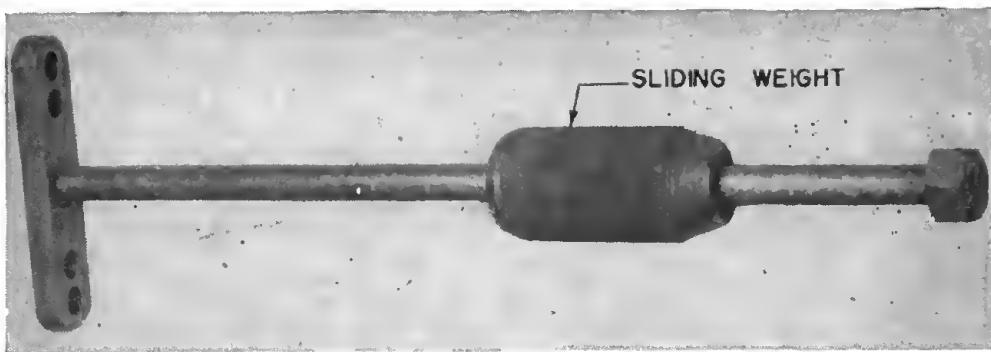

Figure 26. Oil-pump puller.
(2) Gears, collars, ball bearings, and similar parts sometimes bind on the shaft. When they do, they may be easily removed by the use of a gear puller. The ends of the L-shaped bars are first placed around the gear to be removed and then the bolt is screwed down until it bears against the shaft. As the bolt is tightened further, the gear is pulled off the shaft. If the gear seems to be stuck so that the gear puller cannot move it, striking the head of the bolt of the gear puller will often jar it loose. When removing ball bearings, the force must be against the inner race only, or damage to the bearing will result.
f. OIL-PUMP PULLER. (1) An oil-pump puller is a shaft with a firmly attached crosshead on one end, a nut on the other, and a loose-fitting piece of metal free to slide on the shaft. It resembles the letter "I" in shape. The crosshead has several holes or a slot on each side. (See fig. 26.)
(2) Oil pumps on many types of airplane engines fit tightly and have no spot at which the mechanic can grip them to remove them. Removal of these pumps is made easy with an oil-pump puller.
(3) Two bolts are inserted through the head of the puller and tightened into two threaded holes in the oil pump. The sliding weight is then used to hammer against the nut on the end of the shaft, pulling the oil pump loose.